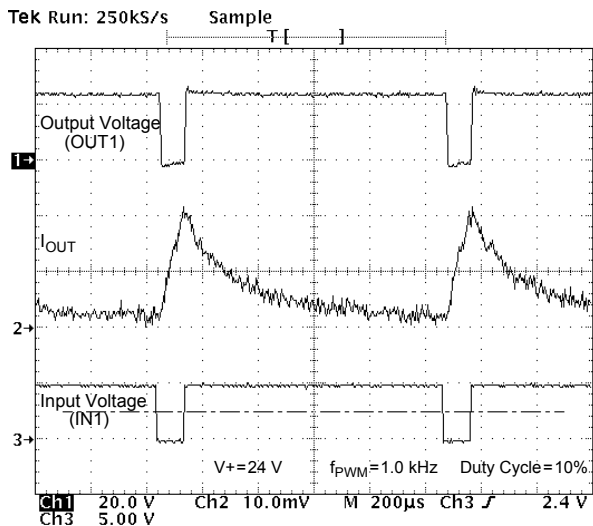

Figure 10. Output Voltage and Current vs. Input Voltage at V+ = 24 V, PWM Frequency of 1.0 kHz, and Duty Cycle of 10%
20. The outputs can be PWM controlled from an external source. This is typically done by holding one input high while applying a PWM pulse train to the other input. The maximum PWM frequency obtainable is a compromise between switching losses and switching frequency. Refer to Typical Switching Waveforms, Figures 10 through 17, pp. 11–12.